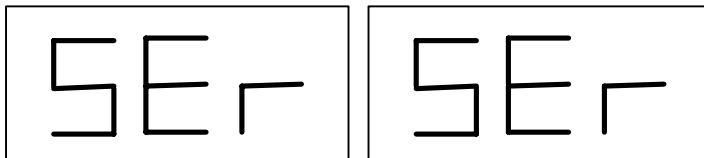

Fig. F9.1 SERVICE mode enabled
2. Press [F+P3]. The machine enters the SERVICE mode and will display the Ser Ser messages. See figure F9.1.
- To exit the SERVICE mode, you must first exit any Menus and test programmes and return to the messages display shown in Figure F9.1;